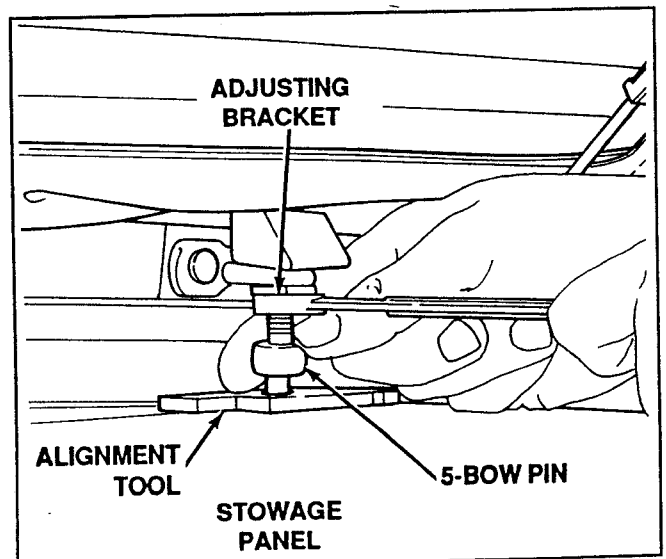

Figure 40. Adjust Pins
4. From inside the vehicle, push the pin into the alignment tool, then tighten the nut and mounting screws (Fig. 40). Remove the tools.